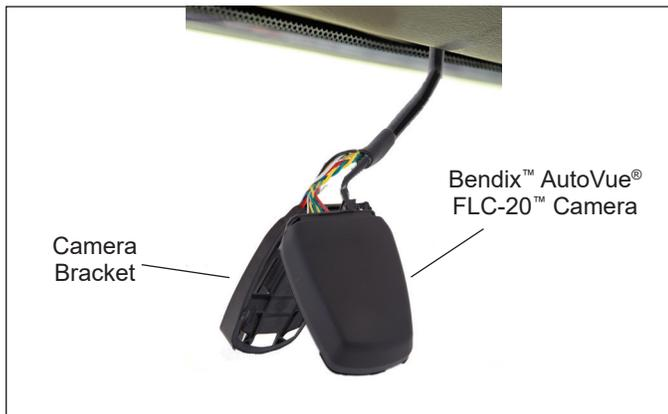

Figure 3 – Bendix™ AutoVue® FLC-20™ Camera & Bracket
- The forward-facing camera may track the lane markers and provide the lane characteristics for the left and right marker to the Steering Assist System over the vehicle communication network. In addition, the system also may provide information on when the lane departure warnings will be suppressed, allowing the Lane Keep Assist (LKA) feature to be suppressed at the same time. See *Figure 3*.
- The properly mounted windshield bracket holds the camera secure and keeps it facing the correct direction to help to successfully determine lane width and position. See *Figure 3*.